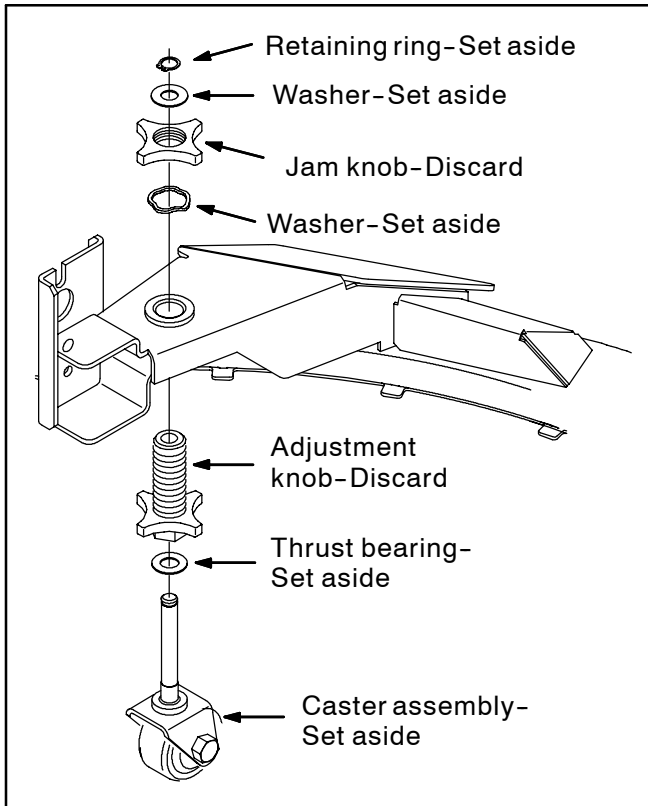

FIG. 3
5. Remove the caster assemblies from the squeegee removed from the machine in the previous step. Set the caster assemblies, thrust bearings, retaining rings, and washers aside. Discard the adjustment knobs, jam knobs, and the rest of the old squeegee assembly. Refer to Fig. 3.
6. Use the saved thrust bearings, retaining rings, washers, and the new knobs (19) and (20) to install both caster assemblies onto the squeegee assembly. Refer to Fig. 3 and Fig. 4.